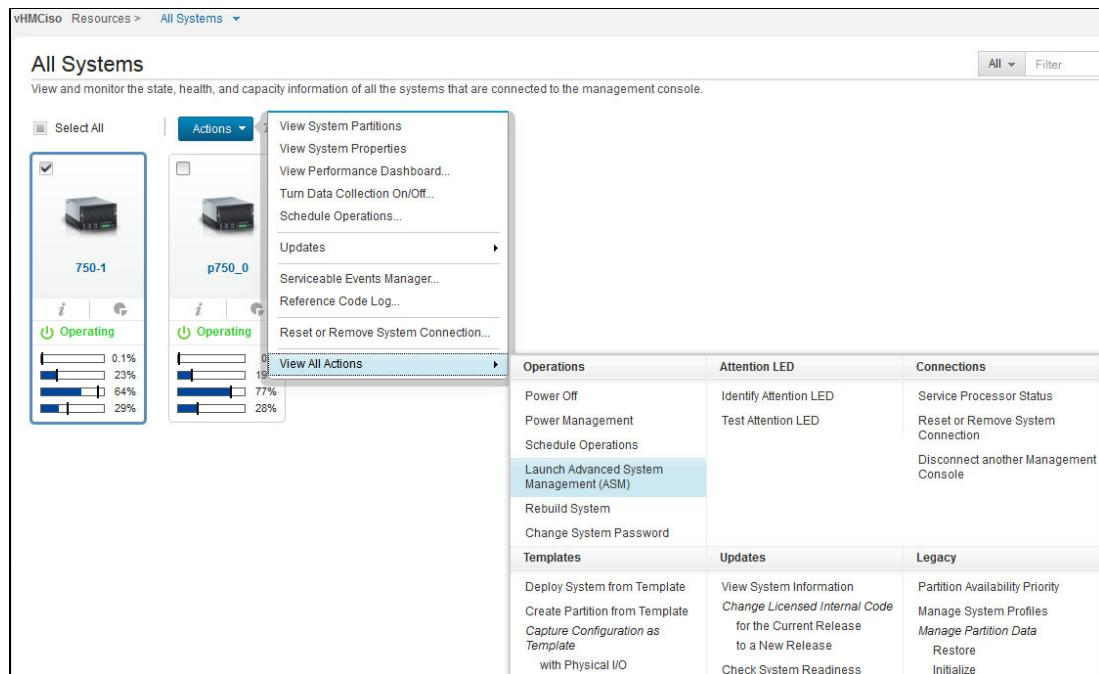

Figure 6-38 Launch ASMI from HMC
- From the lower panel of the HMC menu, select **Actions** → **View All Actions** → **Launch Advanced System Management (ASMI)** as shown in Figure 6-38.